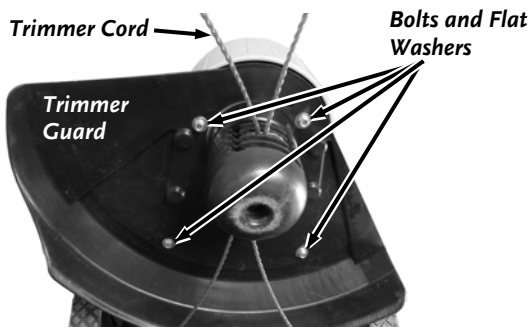

Figure 28
1. Tip the machine back onto the handlebar to access the underside (**Figure 28**).
17. Position the Trimmer Guard and secure with the four Bolts and Flat Washers using the 3/8" Wrench (**Figure 28**).